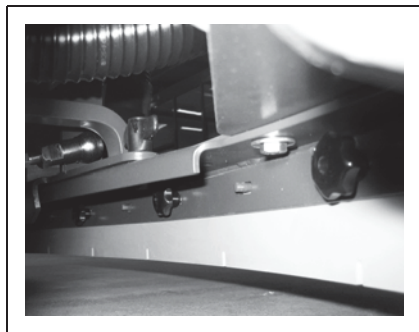

Fig. 39
The squeegee is also equipped with front sealing and support strips and clamping rail (Fig. 39).
6. Disassemble the front sealing strip (Fig. 39) in the same way.